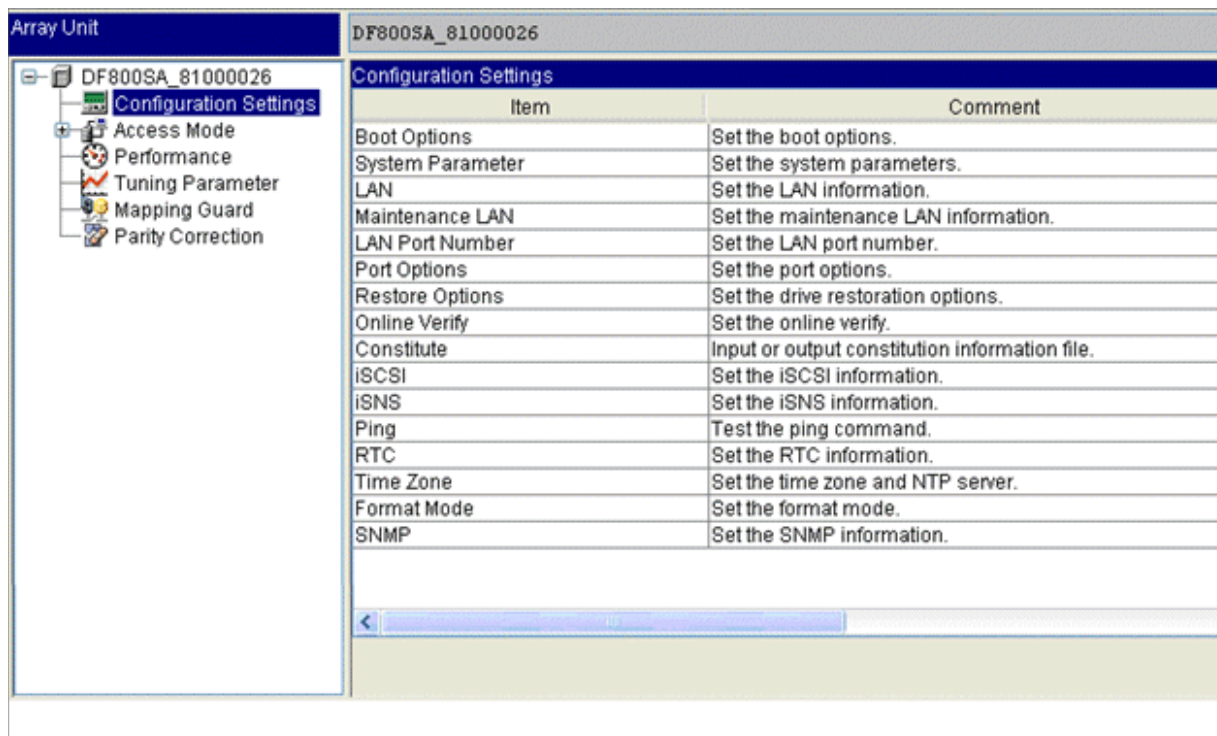

Figure A-9: Array Unit screen
3. Click **Open Advanced Settings**. The Array Unit screen displays, as shown in Figure A-9. This may take a few minutes.